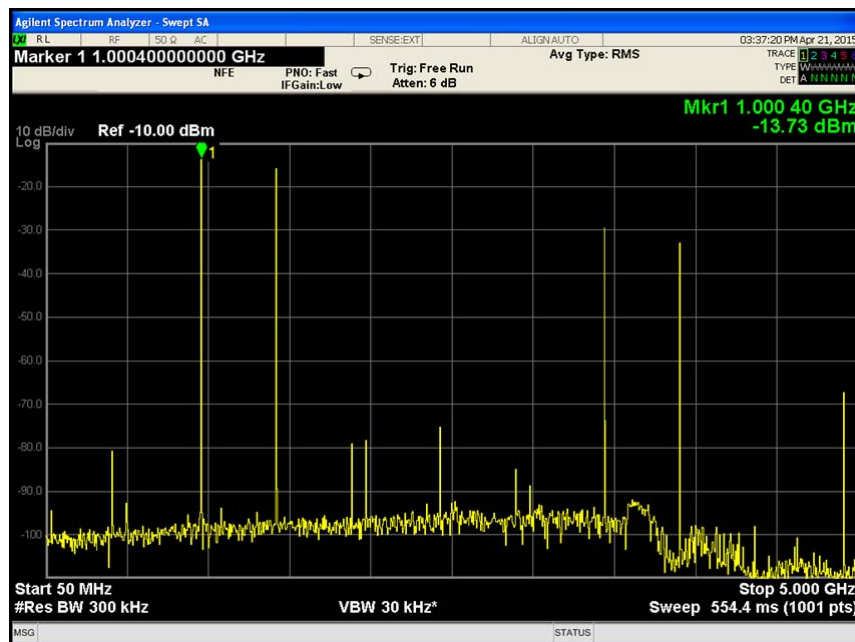

Figure 9. Spectrum Analyzer plot of DAC output in NCO mode, showing single tone at 1 GHz
6. A 1 GHz single tone should now appear on the spectrum analyzer as shown in Figure 9. Change the NCO frequency and repeat step 3 to step5 for getting different DAC output.